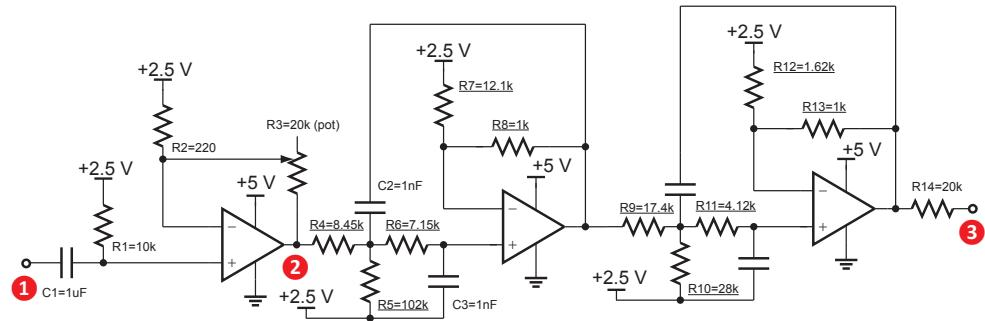

Figure 16: Schematic of the active low-pass filter. Underlined resistors values are 1% tolerance.
Fig. 16 shows the schematic of the active LPF circuit. The filter has a cut-off frequency of **15 kHz** and was designed with the TI WEBENCH filter design tool.
1. Identify the gain stage (between point 1 and point 2 Fig. 16). What is the expression of its gain? Notice that the +2.5 V supply does not affect this result, rather it simply sets the bias of the overall amplifier
1. Identify the active LPF portion of the circuit (between point 2 and point 3 in Fig. 16). The overall filter consists of 2 low pass filters. What is the order of the overall filter and how is it determined from the schematic?
3. To measure the filter response only, input a 3 Vpp signal through R4 (at point 2 in Fig. 16) and measure the output through R14 (at point 3 in Fig. 16). Tabulate and plot the frequency response from 100 Hz to 150 kHz. What is the cutoff frequency of the filter?